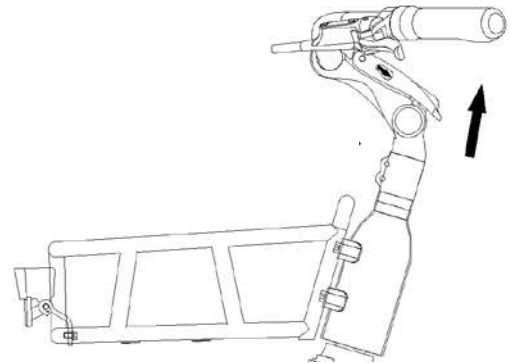

Figure 10.
2. Mount the stem on top of the fork, then open the clamp on the handlebars by sliding the switch in the direction of the arrow and lifting the latch, as shown in Figure 10.